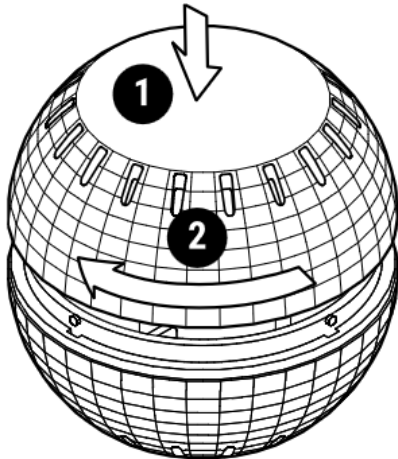

Fig.3
3. The LED indication should start flashing slowly, indicating the Device is awake. Attach the bottom shell to Device by turning it clockwise as shown on Fig. 3.